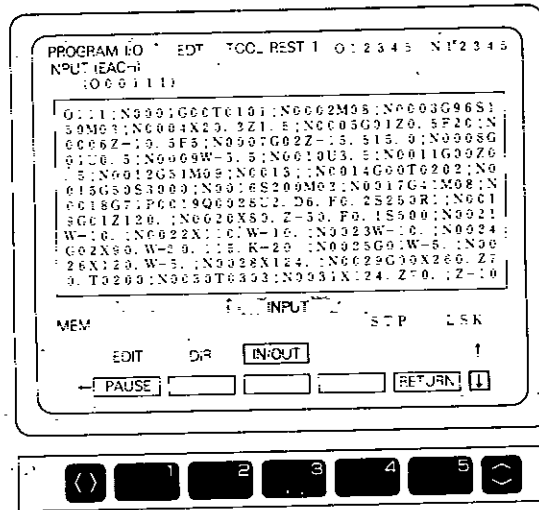

Fig. 3.4.33 Part Program Number Input Screen
- 3 Program input is started and the part program number input screen shown in Fig. 3.4.33 is displayed:
- Program input is started, the screen changes, and the contents of the part programs being input are displayed as shown in Fig. 3.4.33.